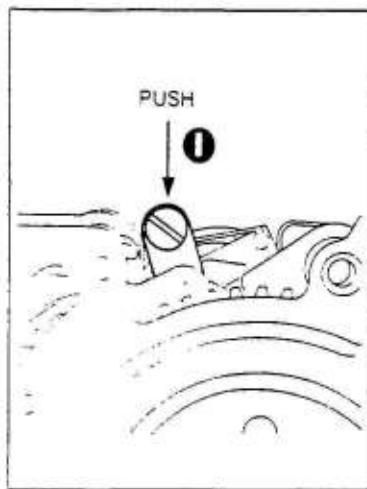

Fig.8
2. Push the wind-up stopper lever ① to release the stopper, and wind the crank knob up. (See Fig. 8.)